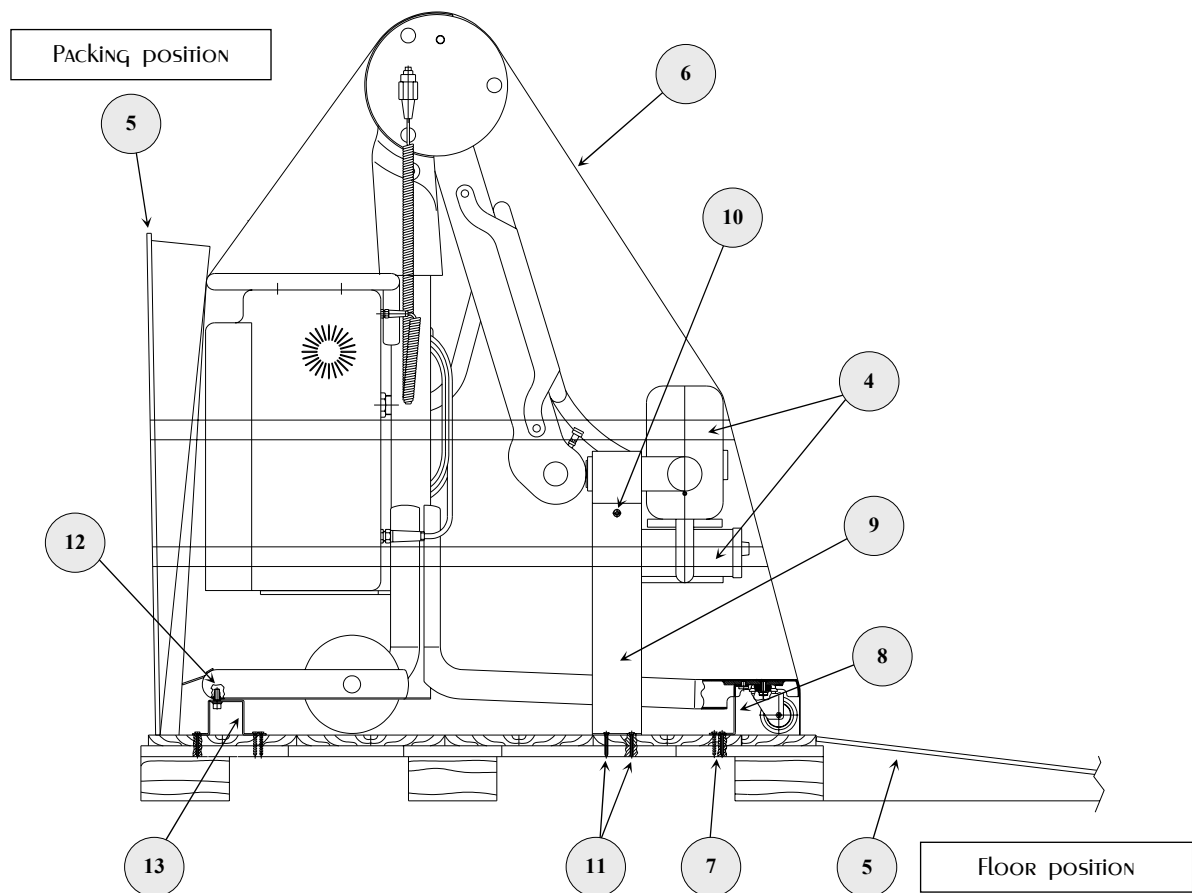
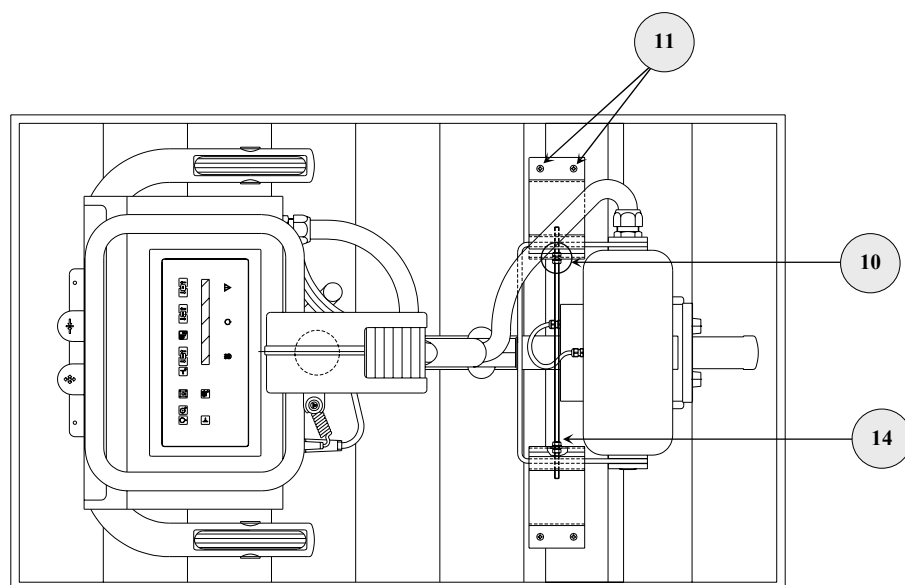
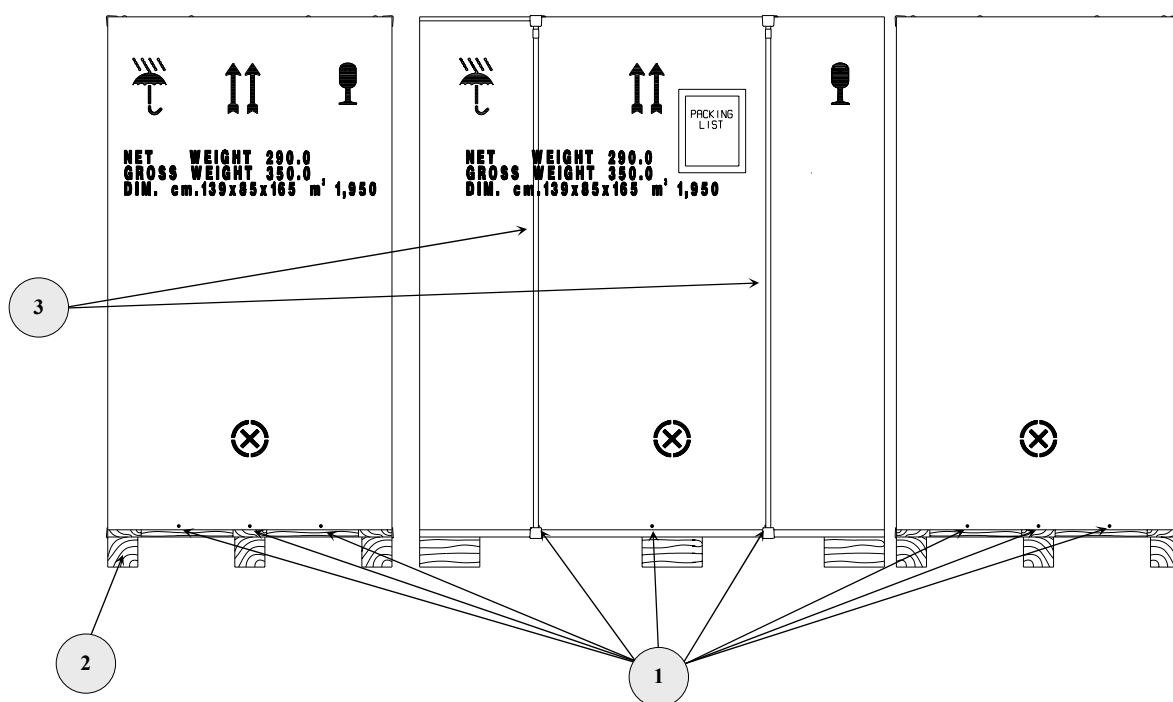

FIGURE 1 - LATERAL VIEW
FIGURE 2 - VIEW FROM ABOVE
FIGURE 3 - PALLET WITH CARTON
1. Cut the tape (4) and remove the slide (5) – SEE FIGURE 1
2. remove the protective bag (6)
3. unscrew the four self-threading screws (7) which fix the anterior wheel fixing bracket (8)
4. free the X-ray Tube Head fixing brackets (9) from the tie-rod (14) - SEE FIGURE 2 - working on nuts (10)
5. unscrew the self-threading screws (11) and remove the X-ray Tube Head fixing brackets (9)
6. put the slide (5) on the floor, as shown in FIGURE 1
7. unscrew the screws (12) which fix the stand to the packing bracket (13)
8. slowly move the mobile unit towards the slide (5), paying attention to the packing bracket (13)
9. let the unit move slowly from the slide (5) till its complete positioning on the floor.
1. Remove the screws (1) - SEE FIGURE 3 - which fix the packing carton to the crate pallet (2)
2. cut the band (3)
3. remove the carton packing from its housing; the mobile unit is as shown in FIGURE 1
2. remove the crate walls: be careful not to ruin the wall (5) that has to be used as slide; the mobile unit is as shown in FIGURE 1
*Note: in the wood packing case, the slide (5) is not mounted as shown in FIGURE 1, because it is substituted by the wall (5), previously mentioned*